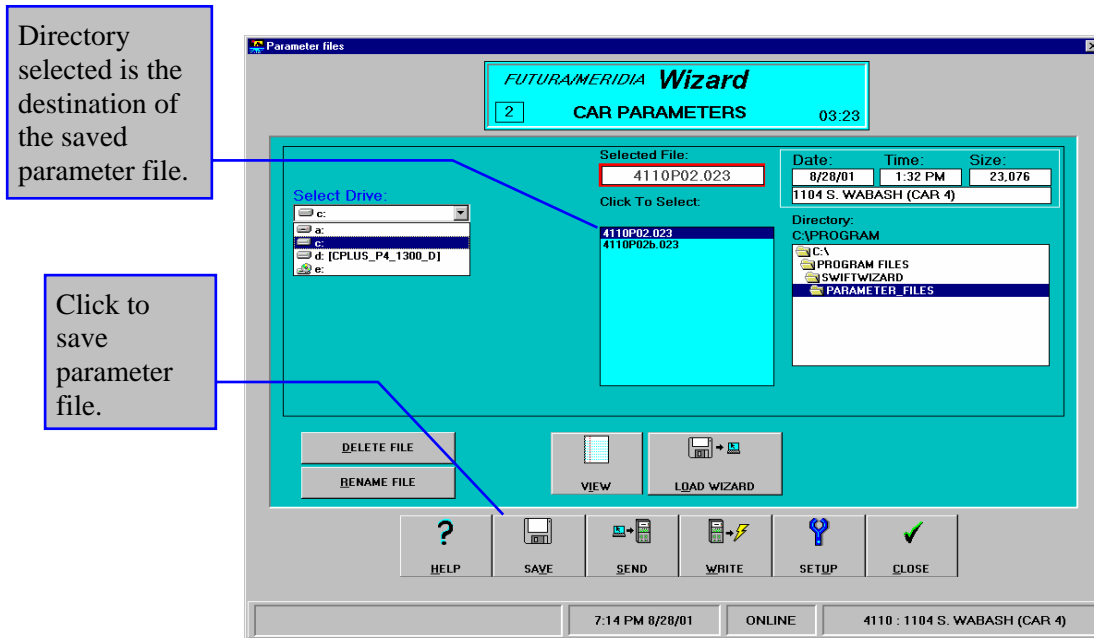

Figure 18: Car Parameters Window
5. Click the PARAMETERS button to get to the CAR PARAMETERS Window (figure 18).